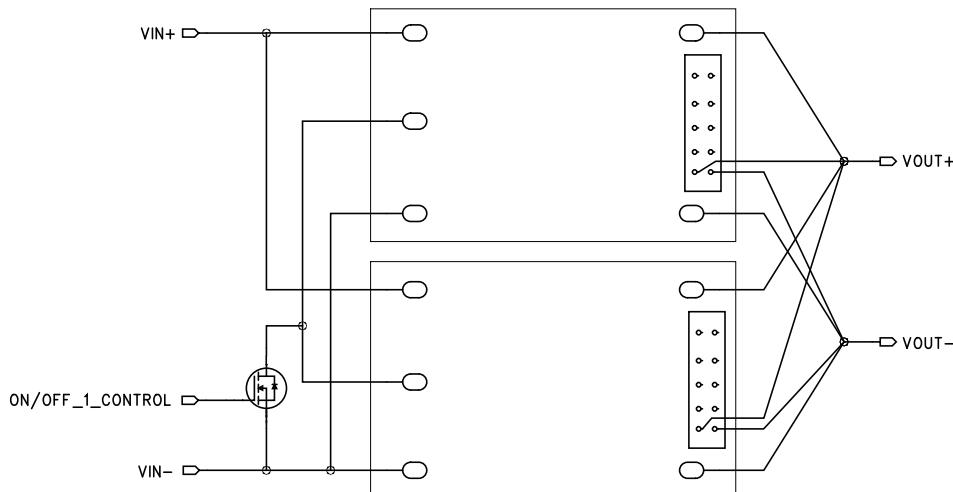

Figure 2. Load Sharing Block Diagram
Two or more converters may be connected in parallel at both the input and output terminals to support higher output current (total power, see figure 2) or to improve reliability due to the reduced stress that results when the modules are operating below their rated limits. For applications requiring current share, followed the guidelines below. The products have a pre-configured voltage droop. The stated output voltage set point is at no load. The output voltage will decrease when the load current is increased. The voltage will drop droop 0.35V while load reaches max load. Our goal is to have each converter contribute nearly identical current into the output load under all input, environmental and load conditions.
- +Vout and -Vout of all parallel units should be connected with a balance output impedance; +Sense and -Sense should be connected together (see figure 2).